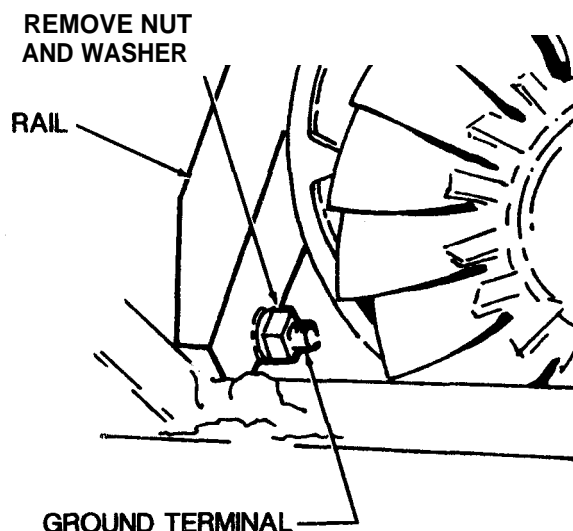

Figure 4-9. Ground terminal, removal and installation.
a. Removal. Refer to figure 4-9 and remove the ground terminal.
(1) Clean and dry the ground terminal thoroughly
(2) Inspect the ground terminal for evidence of burning and for cracks, damaged threads, and other damage.
(3) Replace a defective ground terminal.
(4) Replace lost or broken terminal clip (retainer, safety clip). For fabrication procedures, see Chapter
(3) Replace defective ground terminal.
(4) Replace lost or broken terminal clip (retainer, safety clip). For fabrication procedures, see Chapter 4, Section X Maintenance of the Control Box Assembly, paragraph 4-27.
c. *Installation.* Refer to figure 4-9 and install the ground terminal.